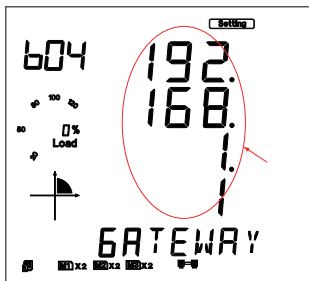

Fig 5-80
f). Set Gateway in the fourth setting page, such as 192.168.1.1. Press the "V/A" key to go to the setting page. Users may set the parameters pointed out in Figure 5-80. The cursor starts at the first digit. After setting the Gateway, press the "V/A" key to accept. Press the "P" key to go to the fifth setting page for DNS Primary Server.